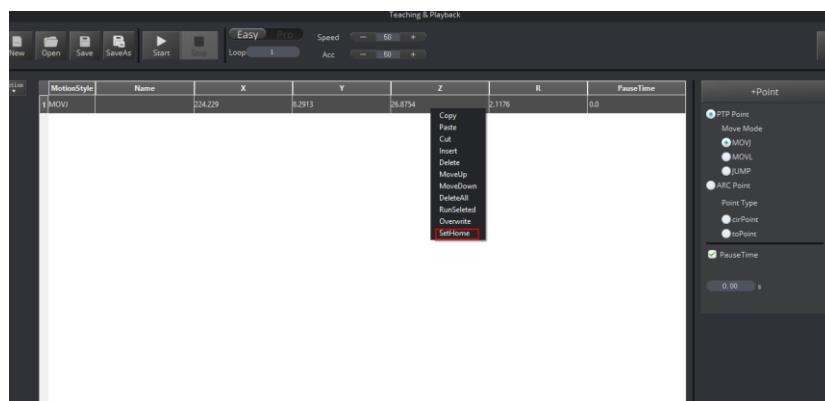

Figure 5.156 Set homing position
3. Select this point and right-click **SetHome**, as shown in Figure 5.156.